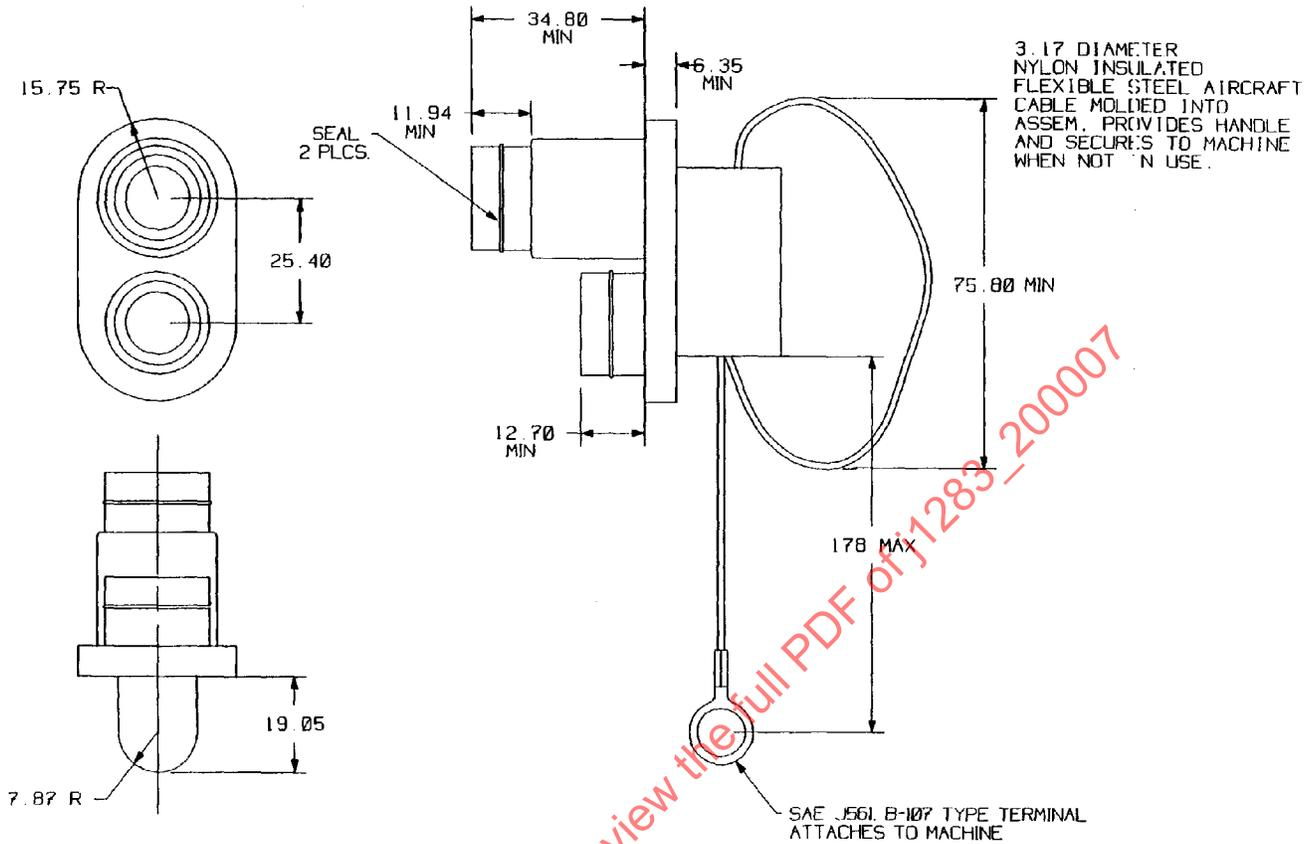

FIGURE 7—COVER ASSEMBLY
- 4.2 **Cover Assembly**—A receptacle cover as described in Figure 7 shall be provided. The cover shall be attached to the machine near the receptacle. The cover is intended to protect internal components from dust and moisture.